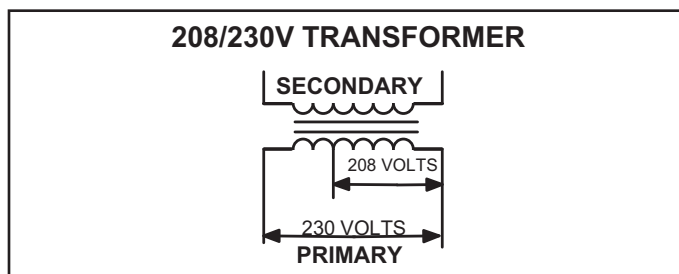

FIGURE 3
All use a single line voltage to 24VAC transformer mounted in the control box. Transformer supplies power to control circuits in the unit. The transformer is rated at 70VA and is protected by a 3 amp (auto) fuse F1. The 208/230 (Y) voltage transformers use two primary voltage taps as shown in FIGURE 3, while 460 (G) and 575 (J) voltage transformers use a single primary voltage tap.